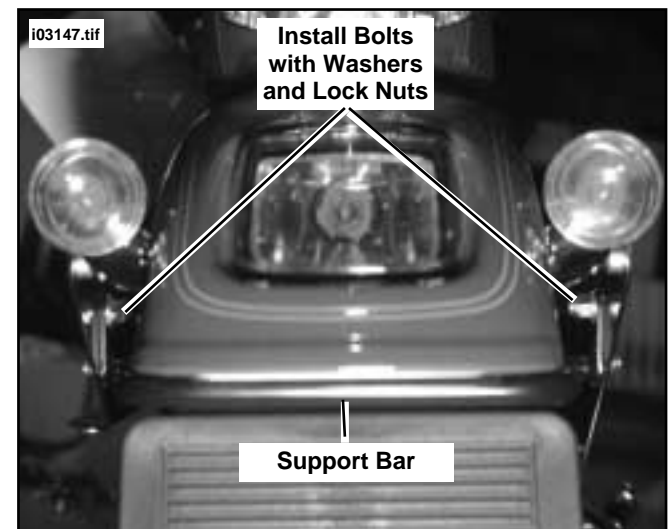

Figure 22. Install Rear Support Bar
12. See Figure 22 Obtain Rear Support Bar (P/N 68367-00) from kit. Install support bar spanning from the inside of one saddlebag support plate, over License Plate Bracket (between bracket and fender), to other support plate. Make sure the holes in the support bar plates align with the holes in both left and right saddlebag support plates.